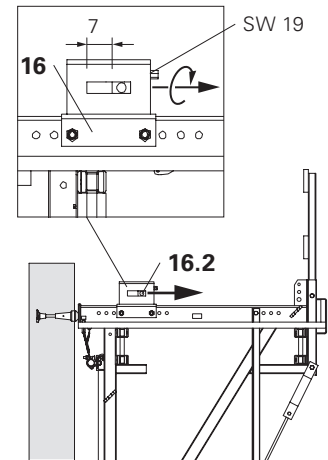
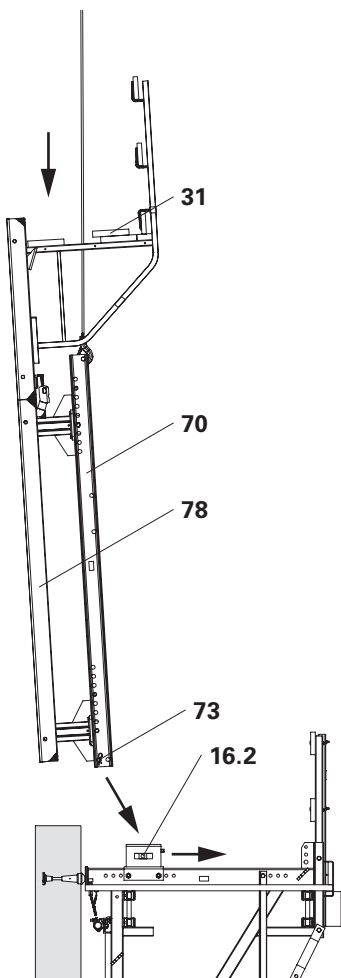

Fig. B2.17a
Fig. B2.17b
1. Completely move back the sliding block (16.2) of the Adjusting Unit CB (16), SW 19. (Fig. B2.17a)
2. Open concreting platform decking (31) above the Strongback. Secure loose decking components.
3. Attach formwork (78) together with concreting platform to the Strongback CB (70), and position on the platform. (Fig. B2.17b)
4. Fix Strongback to the Adjusting Unit CB (16) by means of Bolts  $\varnothing$  25x180 (73) and Cotter Pins 4/1. Standard case: use those holes in the Strongback facing the wall. (Fig. B2.17b)